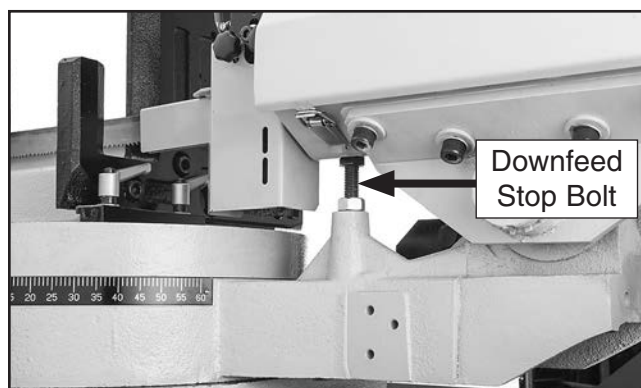

Figure 87. Headstock stopped against downfeed stop bolt.
1. Raise headstock several inches, start blade, and lower headstock. When blade reaches bottom of travel, it should be just below table level but not touching it, and headstock should briefly contact stop bolt (see **Figure 87**) before blade shuts off and headstock moves back to top of its travel.